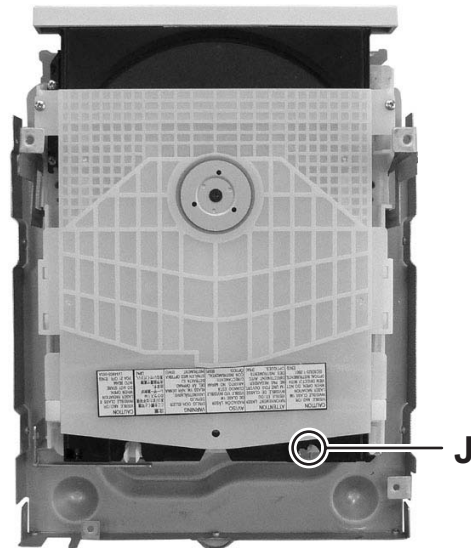

Fig.12
### 3.1.7 Removing the CD mechanism assembly (See Fig.12, 13)
- (1) Remove the one screw **J** attaching the CD mechanism assembly. (See Fig.12)
- (3) Remove the one screw **G** attaching the plate. (See Fig.12)
- (4) Disengage the plate from fixing part **s** and take out the plate. (See Fig.12)